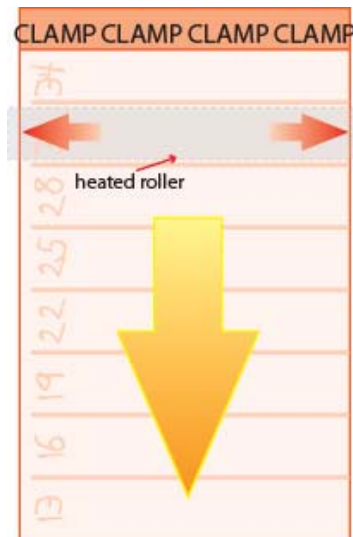

Figure 13
- C. The Cyrel®FAST back exposure step test **plate** must be **processed in the vertical position** through the machine (Figure 13) clamped on the solid segment. This allows the heated roller to engage the plate uniformly across each step. Use the appropriate Cyrel®FAST processor program for the plate thickness of the test.